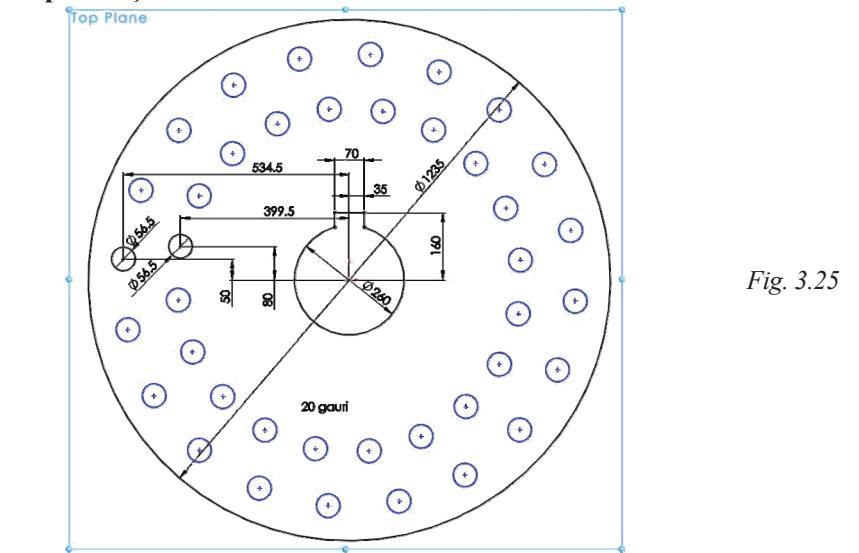

Fig. 3.25
**1 Schițare contur  $\phi 1235 \times \phi 56.5 \times 40$ :** comanda Sketch - Fig. 3.25 – Selectie plan Top / Schițare contur /
**1 Sketching of the  $\phi 1235 \times \phi 56.5 \times 40$  contour:** the Sketch command - Fig. 3.25 - Select Top plane / Sketch the contour /